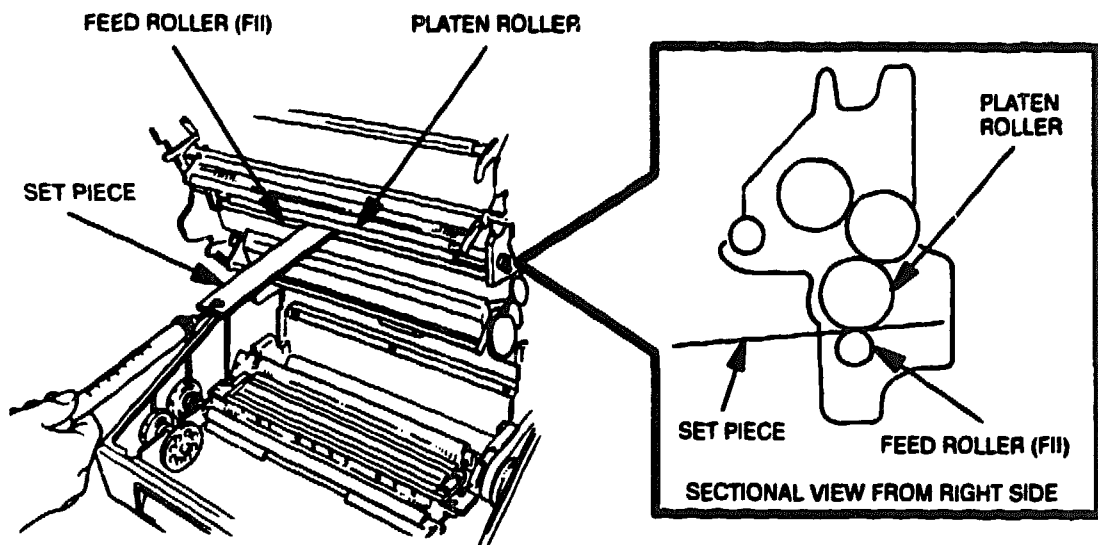

Figure 4-24 Platen Roller and Feed Roller (FII) Friction Measurement
2. As shown in Figure 4-24, insert a set piece between the platen roller and feed roller (FII) a distance of 1.97 in. (50 mm).